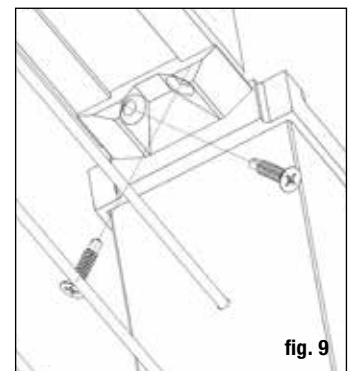

fig. 9
**Step 10** Position the rail between the posts. Check for level end-to-end and vertically. Attach brackets to the post at one end. Predrill using a 7/64" drill bit. Repeat for the other end. *Tip: Use a driver extension bit to avoid marring the rail with the drill chuck. Install all rails prior to installing cable.* (fig. 9)